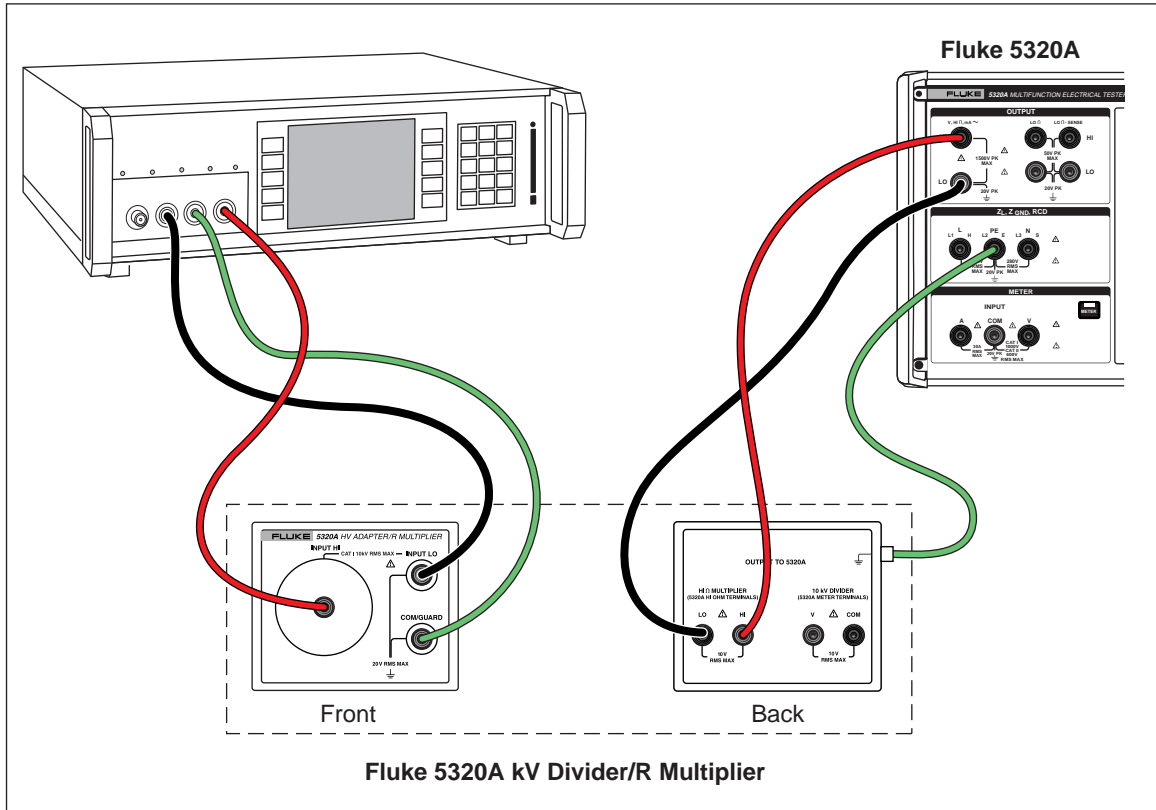

Figure 7-7. Connections to Bench Tester when Using Resistance Multiplier Adapter.
1. Using Figure 7-7 or 7-8, connect the UUT to the resistance multiplier adapter and the Calibrator.